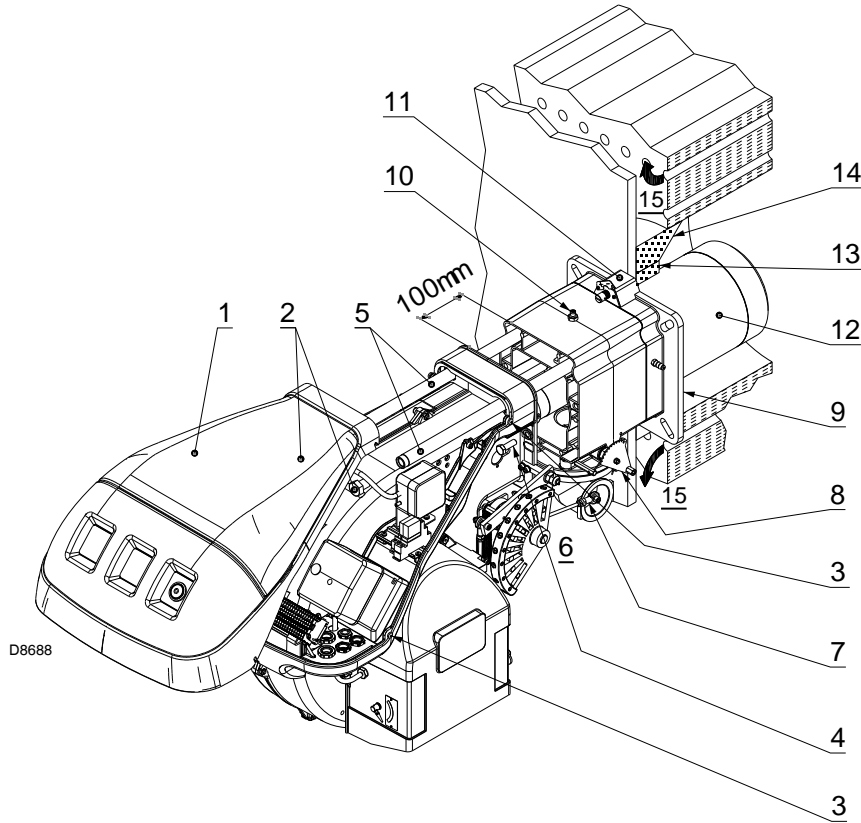

Fig. 12
The length of the blast tube 12)(Fig. 12) must be selected according to the indications provided by the boiler manufacturer, and in any case must be greater than the thickness of the boiler door complete with its refractory.
For boilers with a front flue gas passes 15)(Fig. 12) or flame inversion chamber, a protection device in refractory material 13) must be inserted between the boiler fettling 14) and the blast tube 12).
Separate the combustion head from the rest of the burner, as shown in Fig. 12.
Once this operation (if necessary) has been carried out, fix the flange 11)(Fig. 12) to the boiler plate, interposing the insulating gasket 9)(Fig. 12) supplied.
- reassemble the burner on the guides 3), about 100mm from the pipe coupling 4) - burner in the position shown in Fig. 12;